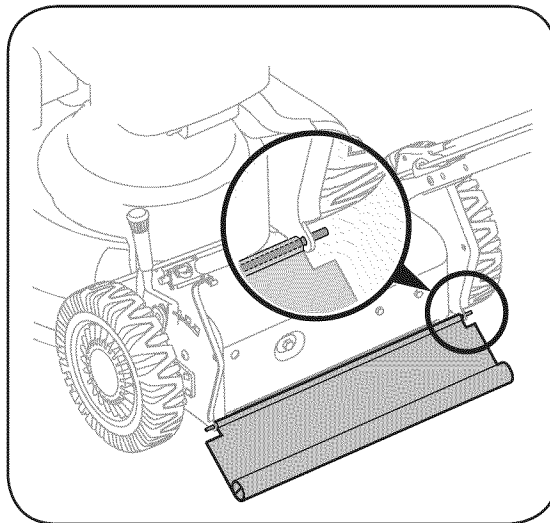

Figure 5-2: Cut wire to remove rear flap.
1. Cut off the flat end of the wire rod which secures it to the deck, Figure 5-2.